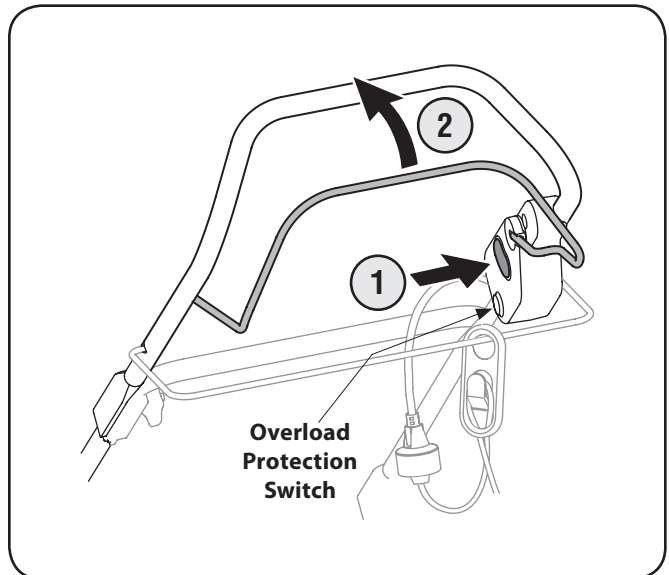

Figure 5-2
3. Depress the (red) starter button and hold it in. See Fig. 5-2.
4. While holding the starter button in, pivot the motor/ blade control handle upward against the upper handle to start the motor and engage the blade. See Fig. 5-2.
2. Press the overload protection switch inward to reset. See Fig. 5-2 in Operation section.